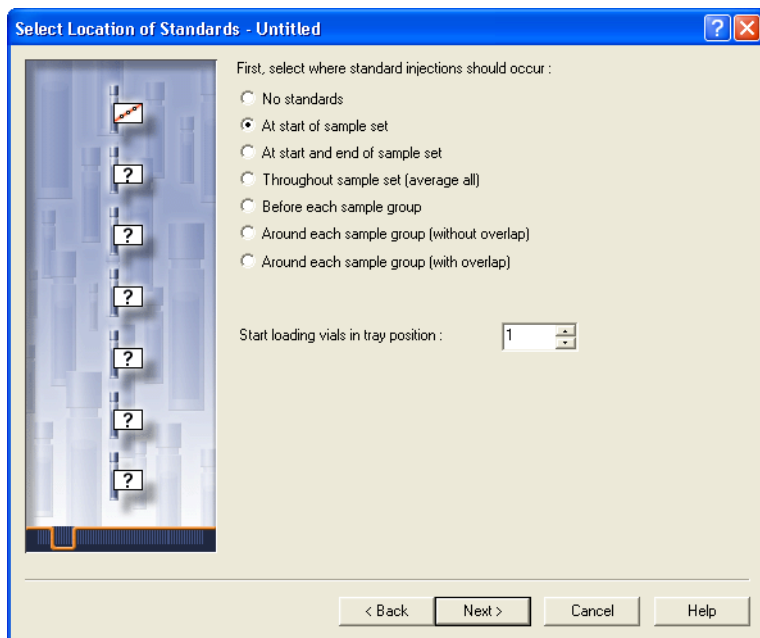

Figure 5-3 New Sample Set Method Wizard, Select Location of Standards Page
3. Accept the default settings (LC or PDA and No Dissolution), then click **Next**. The Select Location of Standards page appears (Figure 5-3).